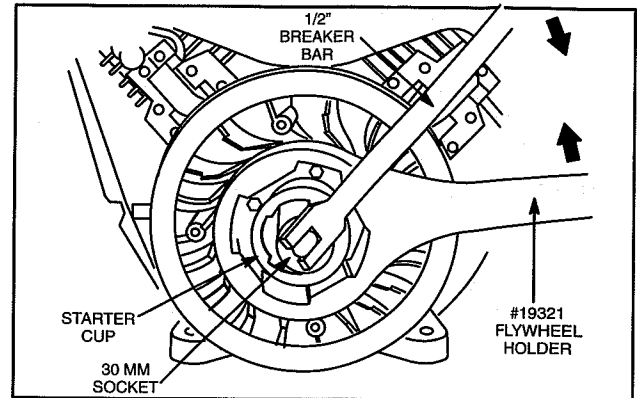

Fig. 8 – Torque Flywheel Nut
3. Torque flywheel nut to 175.0 Nm (125 ft. lbs.), Fig. 8.